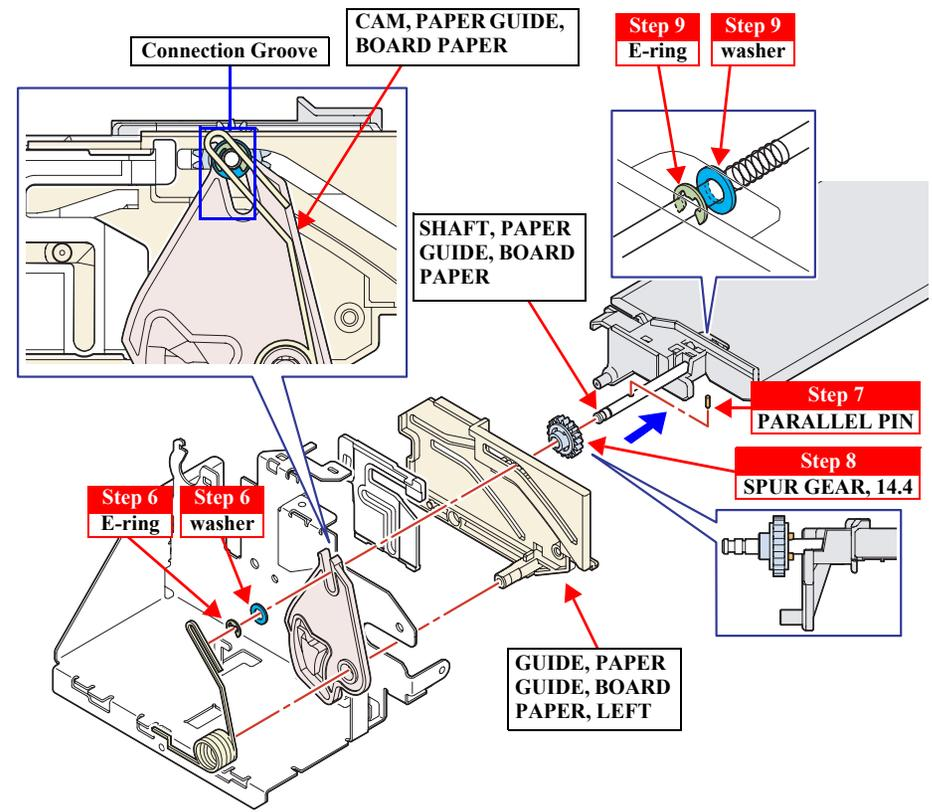

Figure 4-63. Removing the SHAFT, PAPER GUIDE, BOARD PAPER
- Insert the SPUR GEAR, 14.4 into the SHAFT, PAPER GUIDE, BOARD PAPER as shown in the *Figure 4-63*, and insert the parallel pin into the hole.